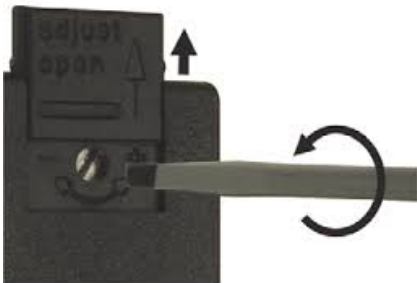

Fig. 4: Setting the switch point
2.  Turn the screw counter-clockwise according to Fig. 4 to raise the switch point
- 2.**  Turn the screw clockwise according to Fig. 4 to lower the switch point